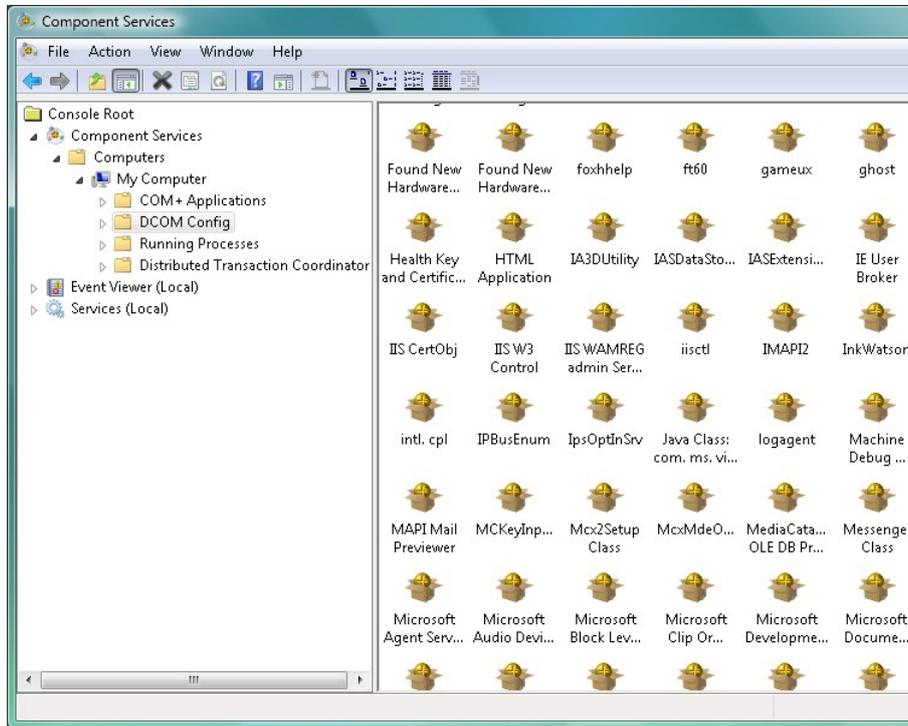

Figure 4-16: Component Services Window
2. Type **dcomcnfg** in the Open field and click **OK**. The Component Services window is displayed as shown in Figure 4-16.